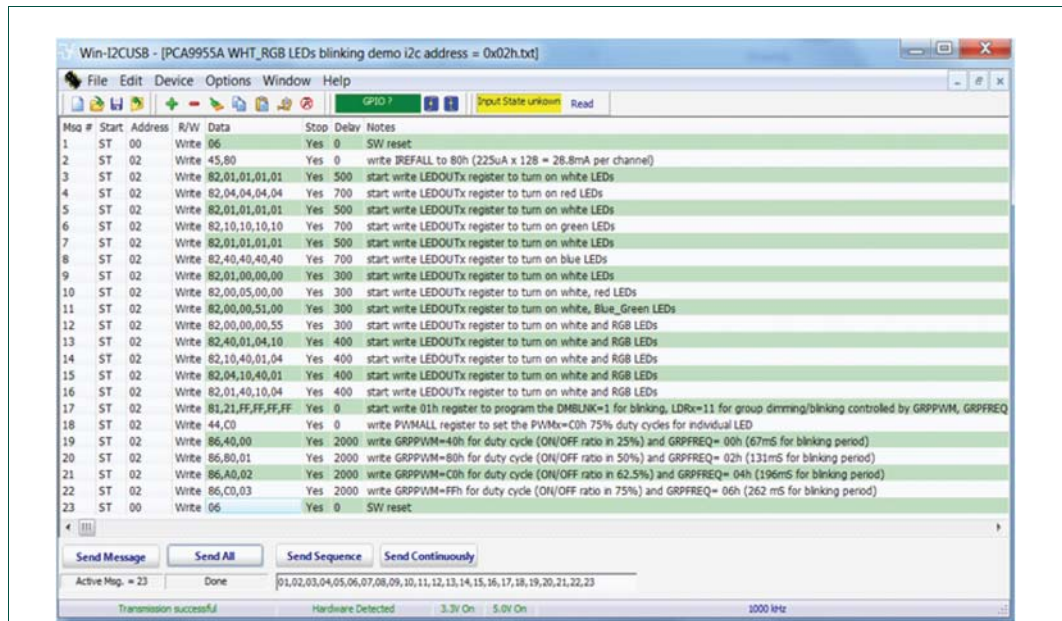

Fig 8. Message data in Expert mode to demonstrate all White and RGB LEDs for blinking
3. After opening the 'PCA9955A/B WHT\_RGB LEDs blinking demo i2c address = 0x02h' text file, the Win-I2CUSB GUI in Expert mode screen will be displayed as shown in Figure 8.